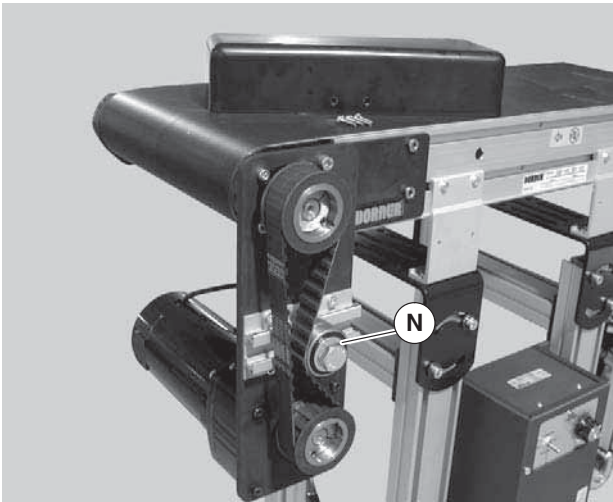

Figure 10
2. Loosen tensioner (Figure 10, item N)
2. Loosen tensioner (Figure 10, item N).